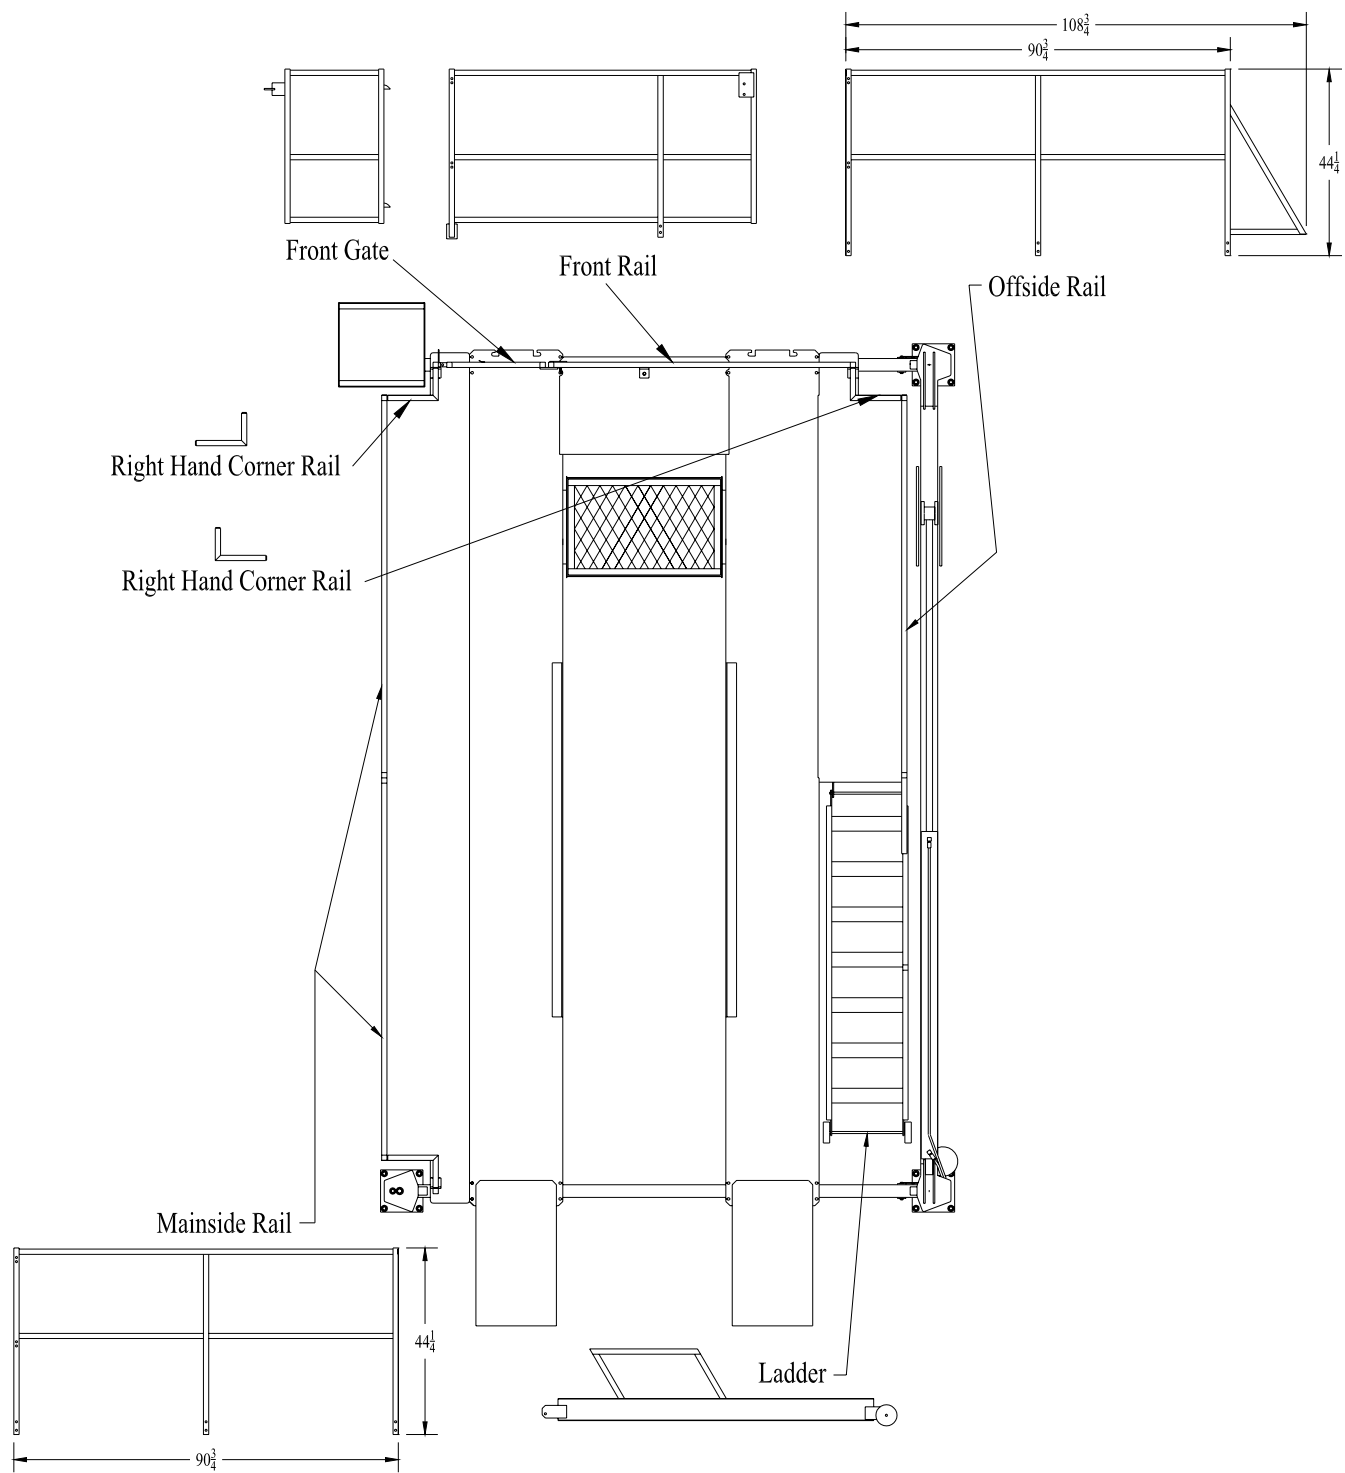

Figure 17
45. Remove the blocks and raise both lifts to about 2'. Refer to Figure 17 & 18 for railing assemblies. For each lift, position the mainside front post, the front handrail, and the front rail angle as shown. Secure with $\frac{1}{2}$ x 1-3/4 hex head bolts, nuts, and washers. Attach the front rail to the rail angle with $\frac{3}{8}$ x 2 hex head bolts.